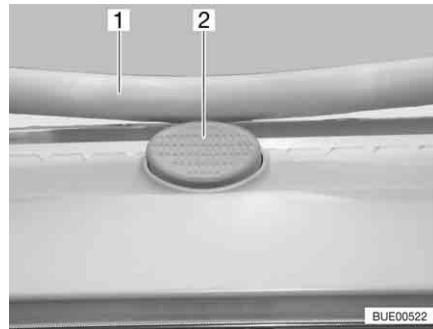

Fig. 54 Safety knob on the Heki skylight
- Press the safety knob (Fig. 54,2) and pull the bar (Fig. 54,1) down with both hands.
- Push the bar upwards with both hands until it is above the safety knob (Fig. 54,2).